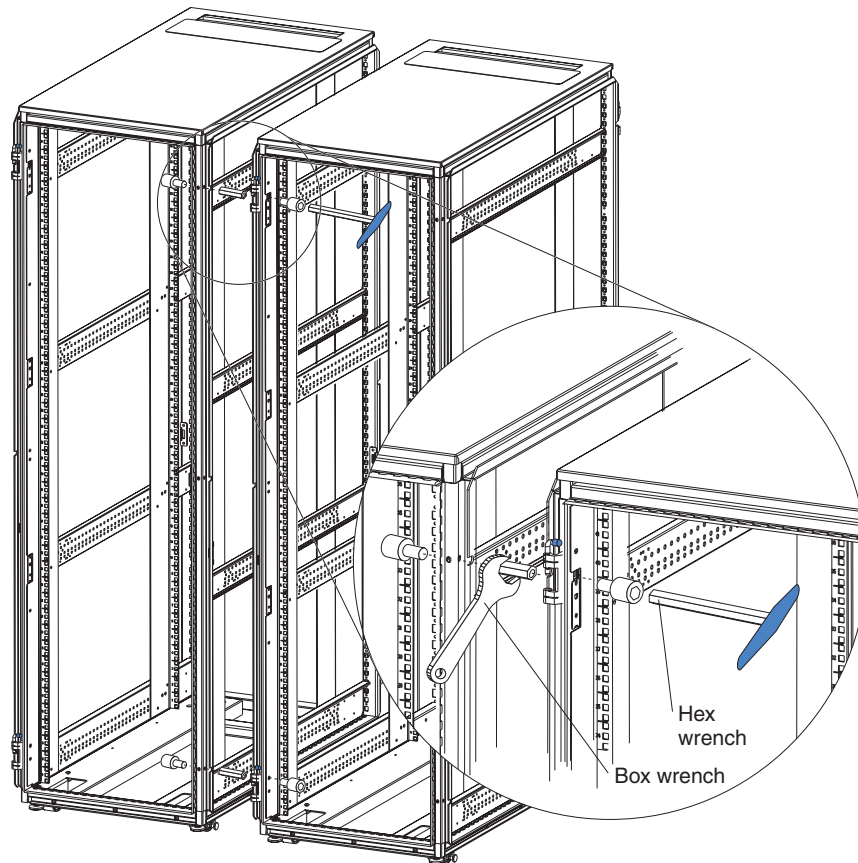

Figure 16. Attaching S2 42U standard and expansion racks to each other to form a suite
2. Insert an attachment pin that comes with the expansion rack through the top slot on the front of the standard and expansion racks as shown in Figure 16. The slot is located behind the top hinge.